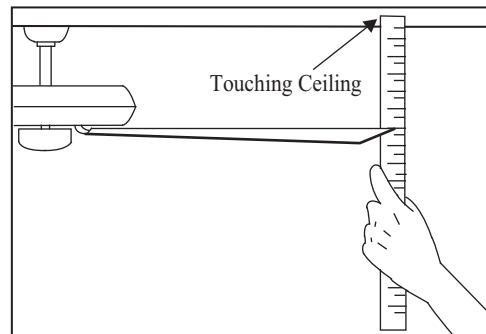

Figure 17
2. Most fan wobble problems are caused when blade levels are unequal. Check this level by selecting a point on the ceiling above the tip of one of the blades. Measure from a point on the center of each blade to the point on the ceiling. Measure this distance as shown in Figure 17. Rotate the fan until the next blade is positioned for measurement. Repeat for each blade. Measurements deviation should be within  $1/8$ ". Run the fan for 10 Minutes.